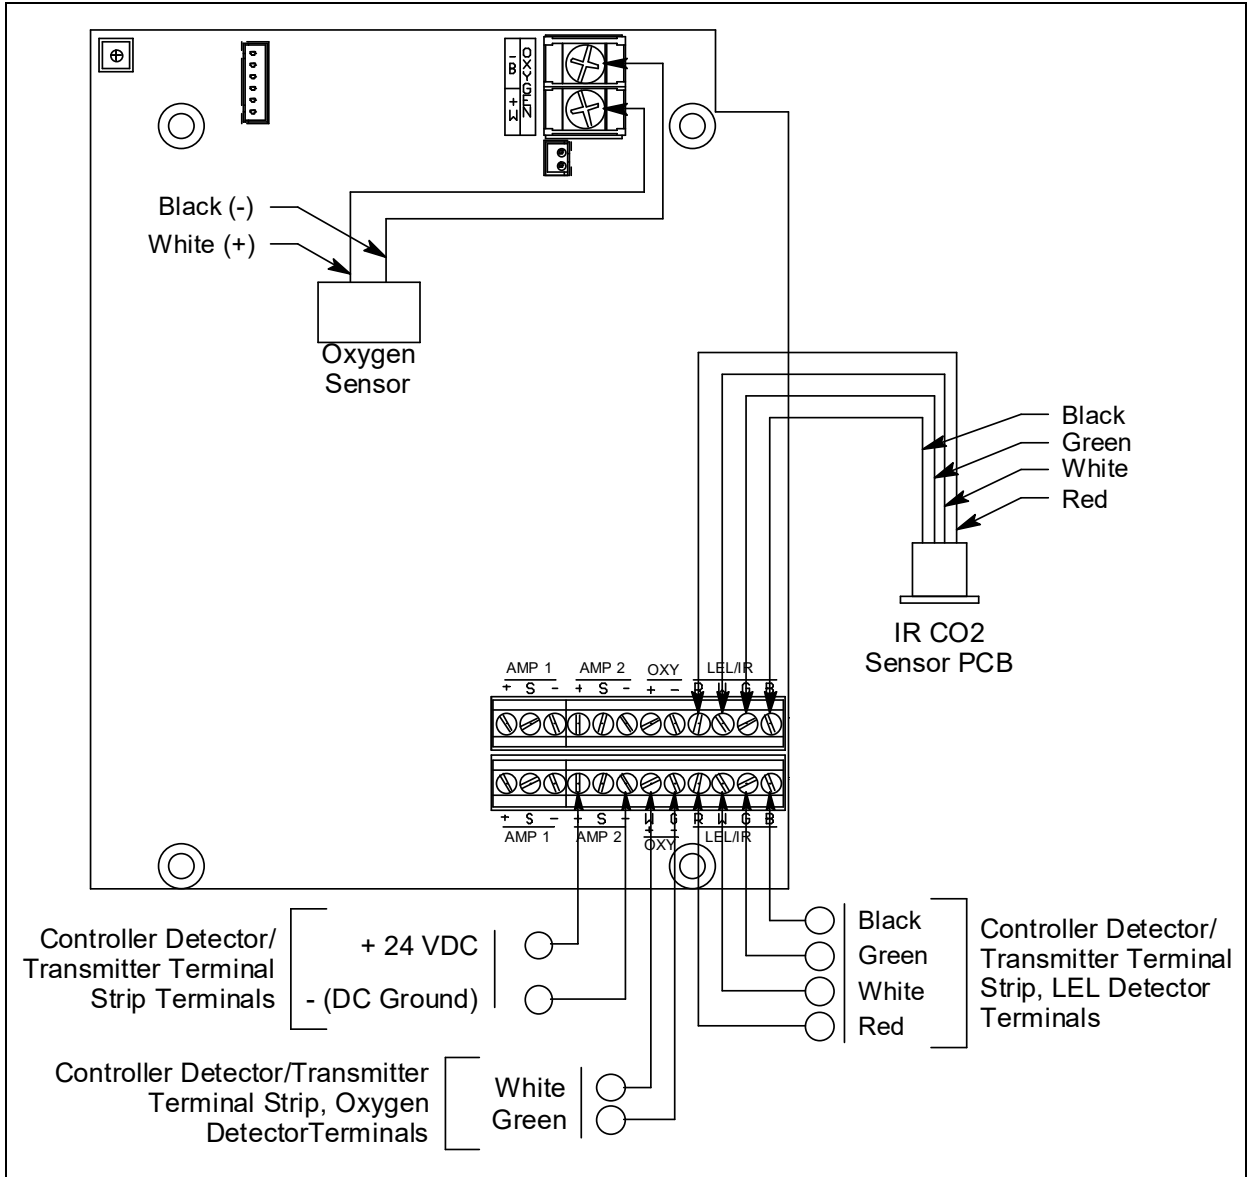

Figure 4: Wiring to a Controller
5. Connect the cable to the sample-draw detector’s interconnect terminal strip as shown in Figure 4.
8. Connect the wires to the applicable detector/transmitter terminal strip at the controller as shown in Figure 4. Refer to the controller operator's manual and the controller detector head specification sheet for the 35-3001-13-XX for detector/terminal strip connections specific to the controller.